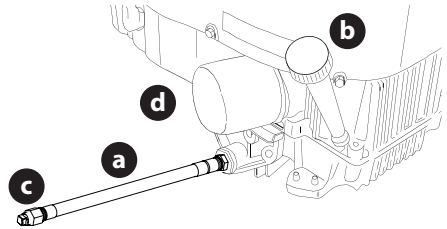

Fig. 35
- Locate the oil drain hose (a) on the side of the engine (Fig. 35).
- Place an appropriate oil collection container with at least a 2.5 quart (2.37 liter) capacity below the opening of the oil drain hose, to collect the used oil. Remove the oil fill cap/dipstick (b) from the oil fill tube (Fig. 35).
- While holding the free end of the oil drain hose over the oil collection container, unscrew the square head hose plug (c) from the end of the oil drain hose (Fig. 35). Drain the engine oil into the collection container.
- Remove the oil filter (d) and drain into the collection container (Fig. 35).
- Replace the oil filter (d) and refill the engine with new oil as instructed in the Engine Operator's Manual (Fig. 35).